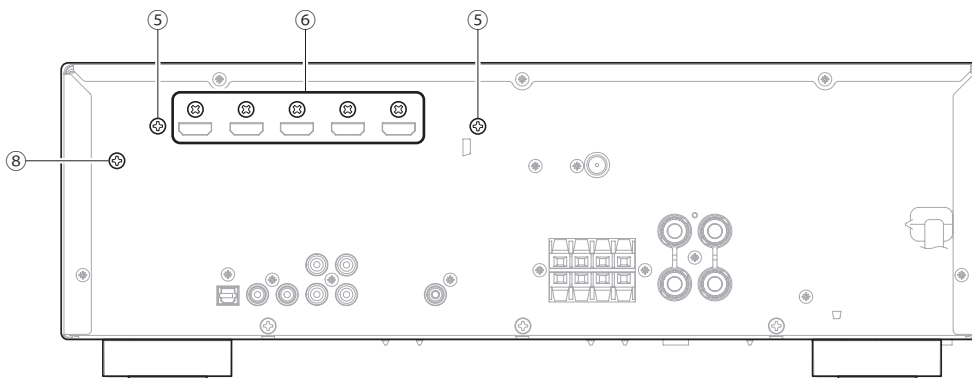

Fig. 3
- d. Remove 2 screws (⑤) and 5 screws (⑥). (Fig. 3)
- b. Remove screw (⑧). (Fig. 3)